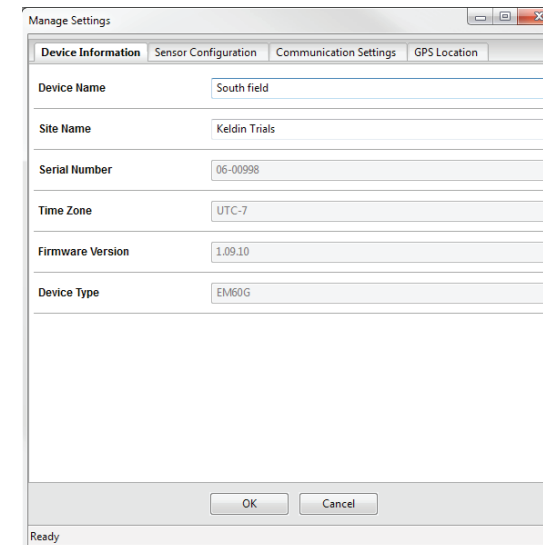

Figure 4 Device Information tab
6. Navigate to the Device Information tab (Figure 4).